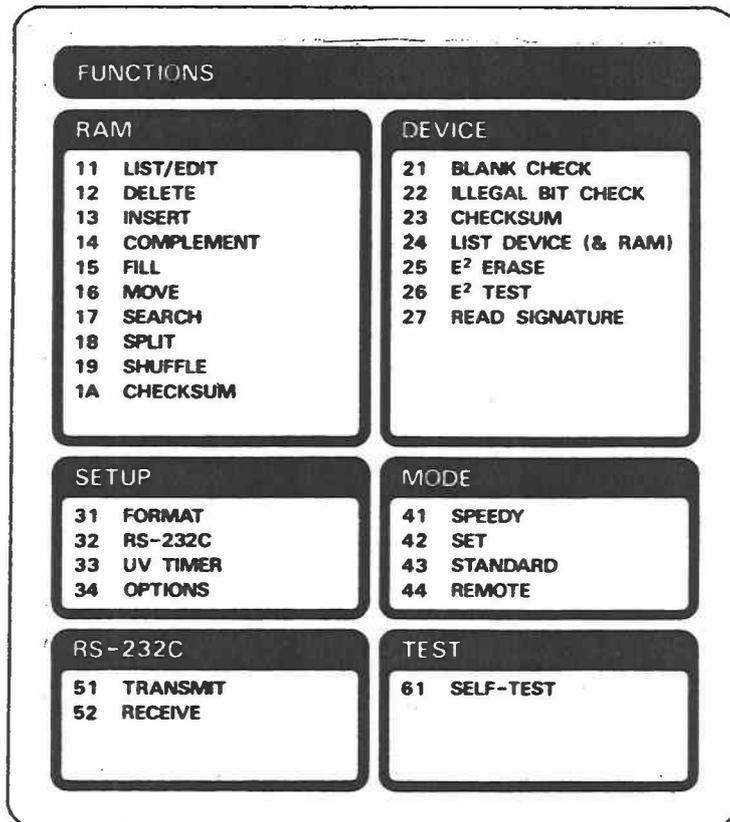

Figure 3.3 - The Function Panel
- Section B:** The Function Panel. All of the functions and operating modes are listed on the function panel. Refer to Figure 3.3.